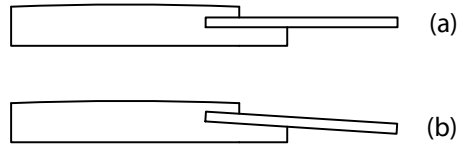
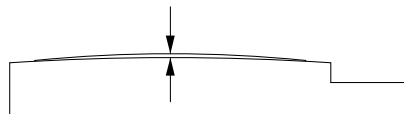

Figure 11 - Different pickguard tilting angles
Figure 12 - The surfaces of the pickup and the fretboard
- The pickup, viewed from the tailpiece (Figure 12, same view as Figure 11), should be horizontal. Its top should be around 1 mm below the surface of the fretboard at the center: